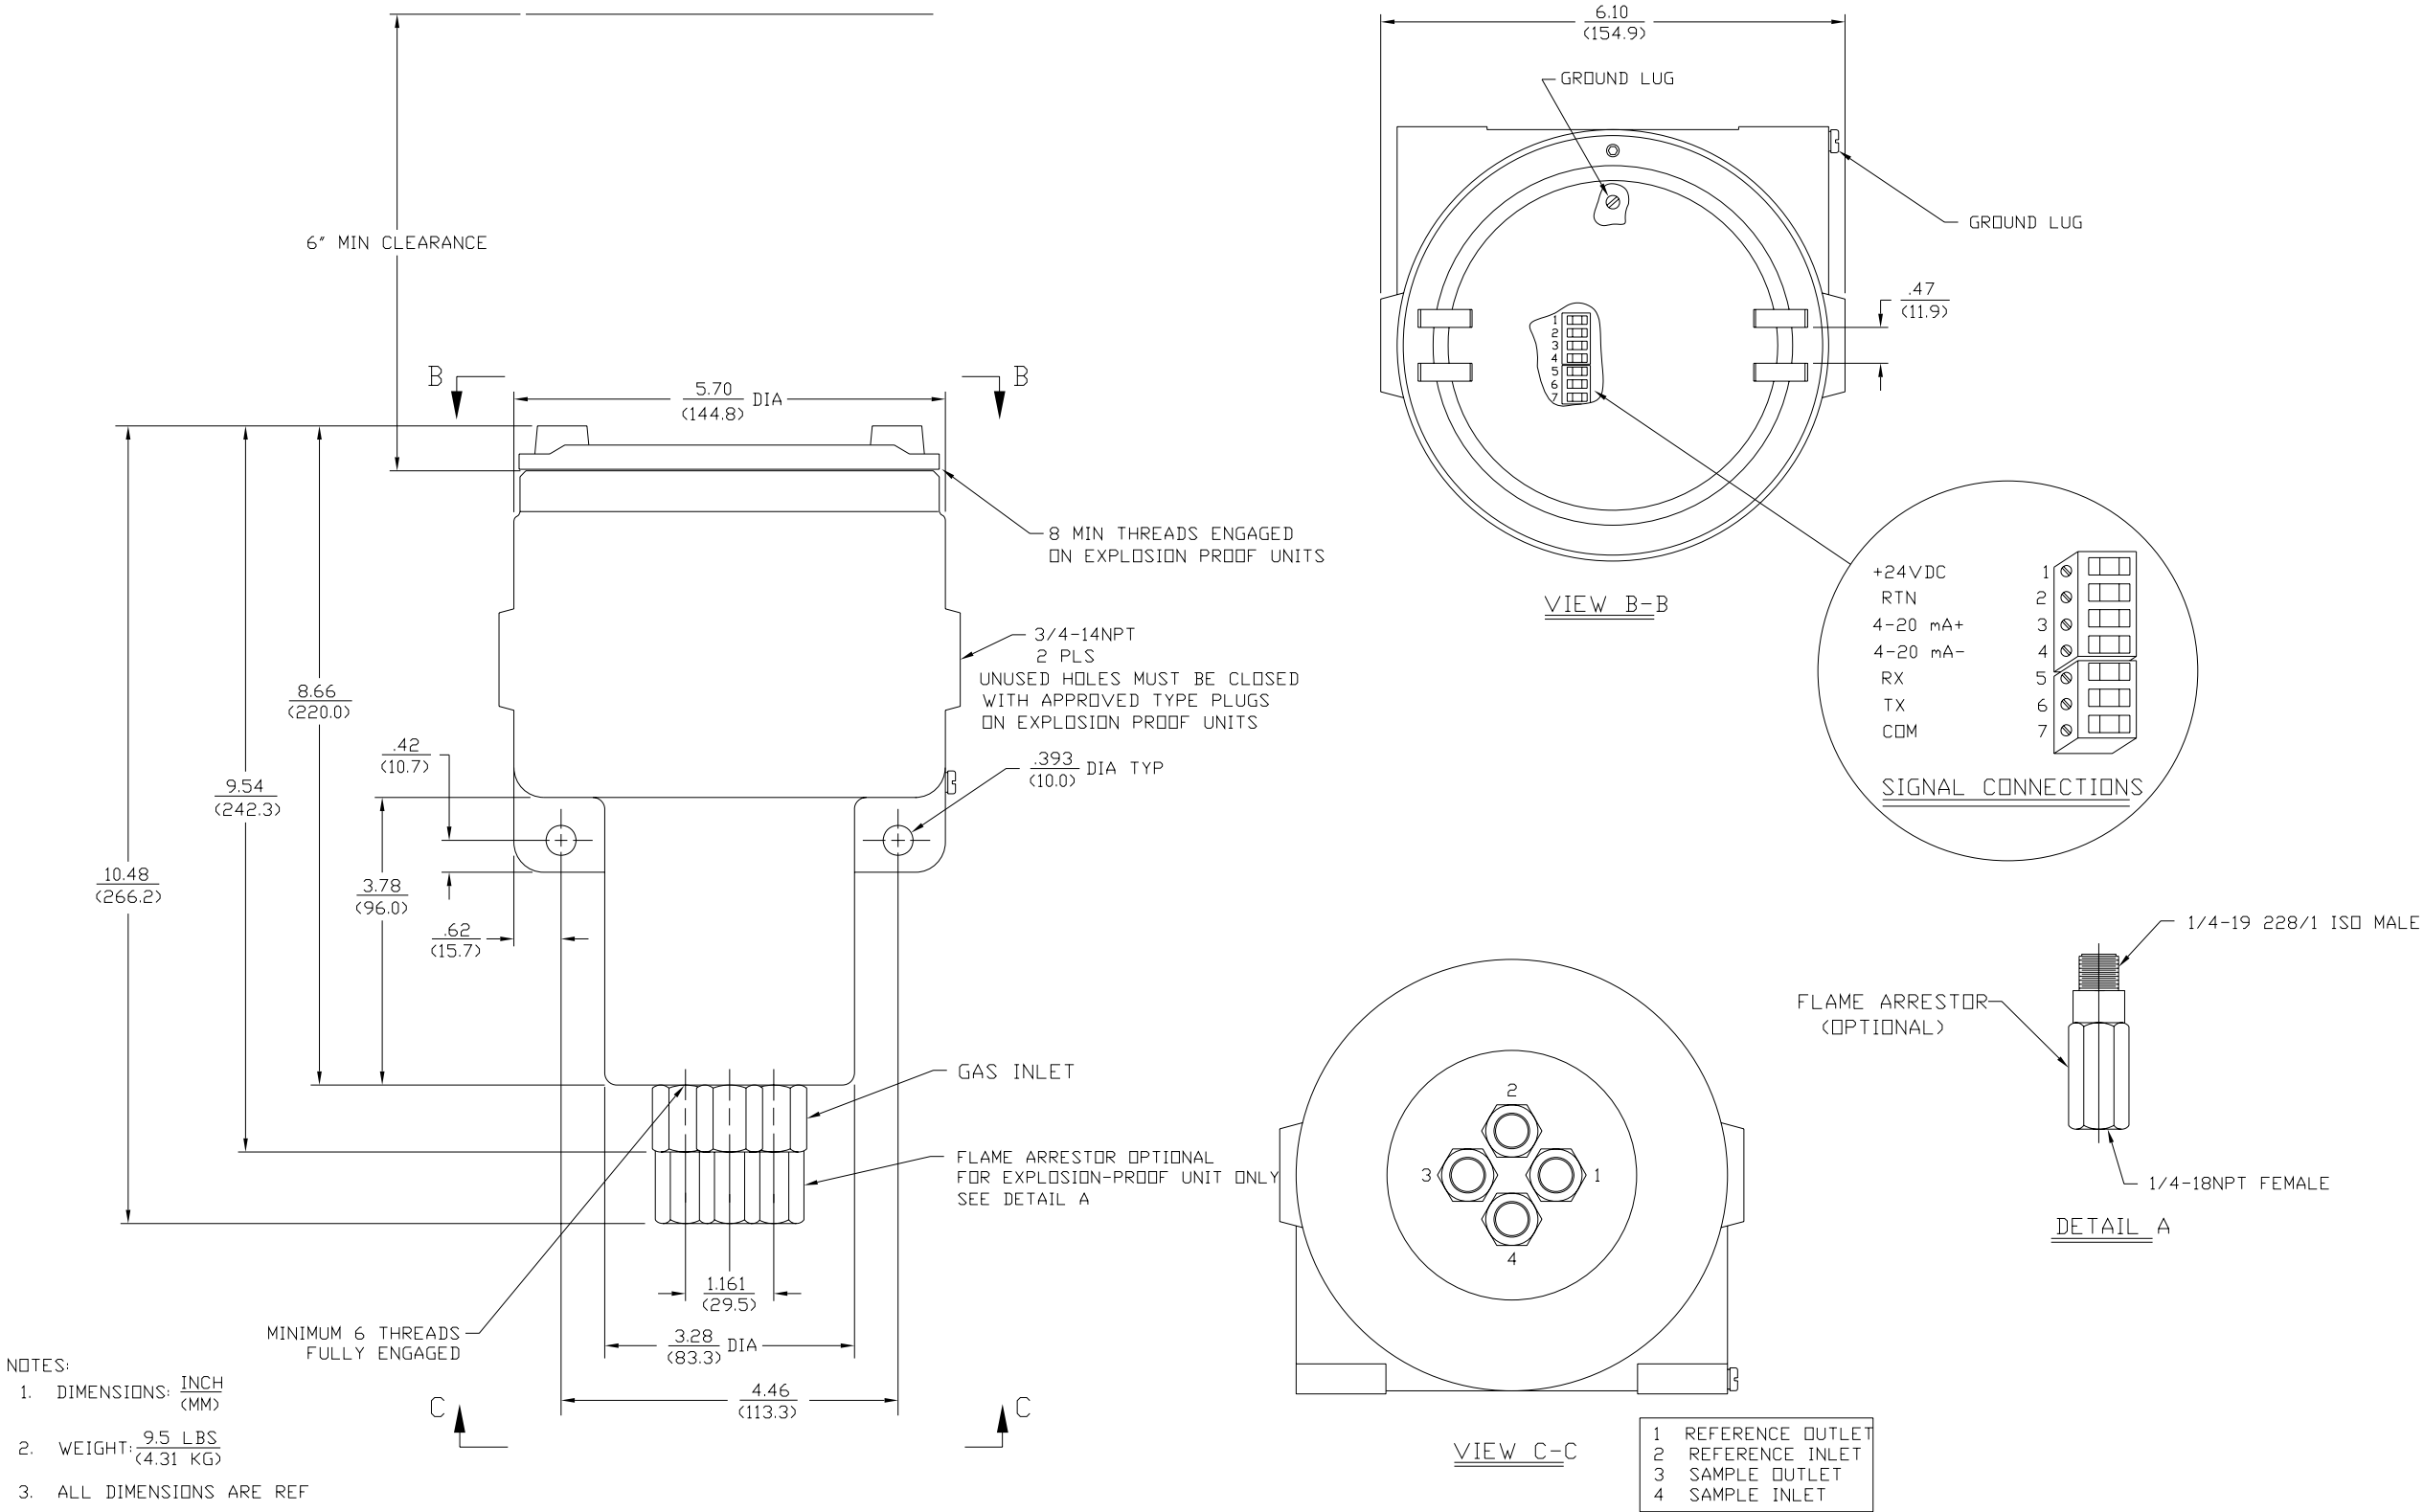

Figure 61: Outline & Installation - Flowing Reference (712-1059\_B)
- Figure 61, "Outline & Installation - Flowing Reference (712-1059\_B)," on page 72